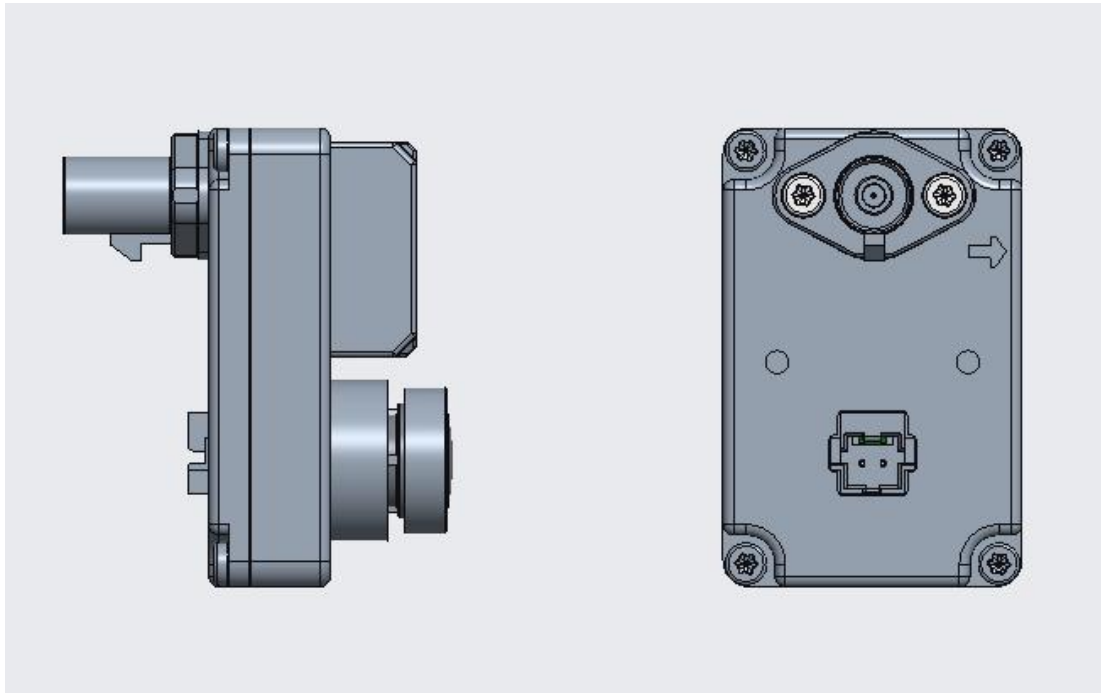

Figure 13
- The camera module is positioned in the direction indicated by the arrow in Figure 13, and the imaging is in the forward direction.